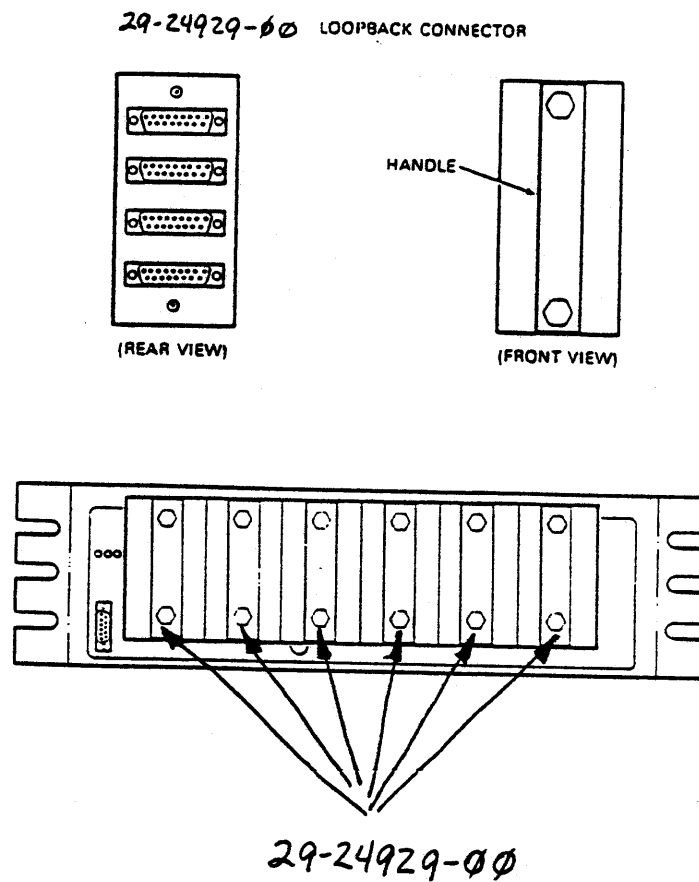

Figure 2-14 29-24929-00 Installed on H3014 Distribution Panel
9. Install the six (6) 29-24929-00 staggered loopback connectors which are supplied in the CD kit (Figure 2-14).